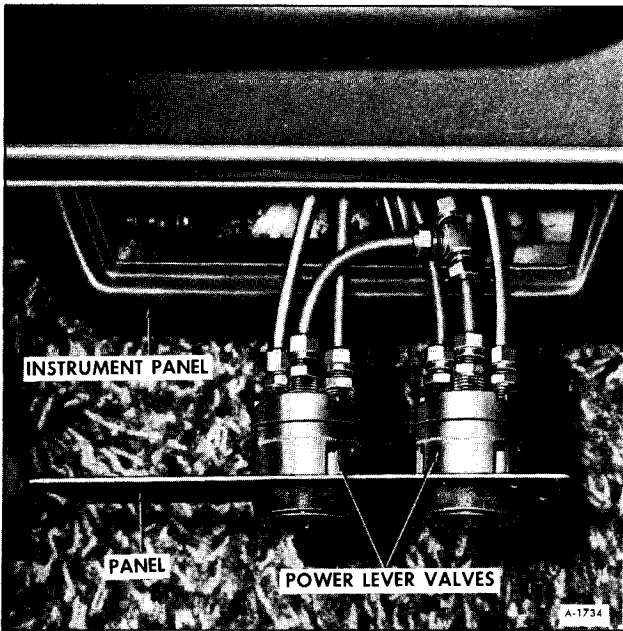

Figure 20—Power Level Panel Removed
1. Remove four (4) screws from power level control panel.
2. Pull panel and valve assemblies out of the way, as shown in Figure 20.
1. Remove four screws from power lever control mounting panel, and pull valves and panel out (figure 20).